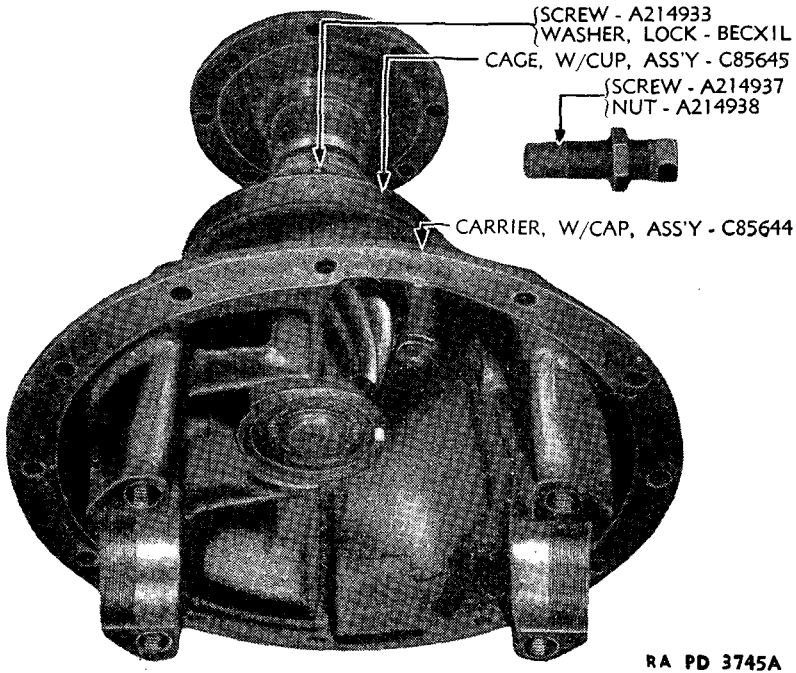

FIGURE 61.—Rear axle drive pinion and bearing cage, exploded.
b. Drive pinion assembly (fig. 61).—Tools: press, wood blocks, pipe collar, screw driver, 1 $\frac{1}{4}$ -inch open end wrench, 1 $\frac{1}{2}$ -inch socket wrench, pliers, $\frac{5}{8}$ -inch socket wrench.